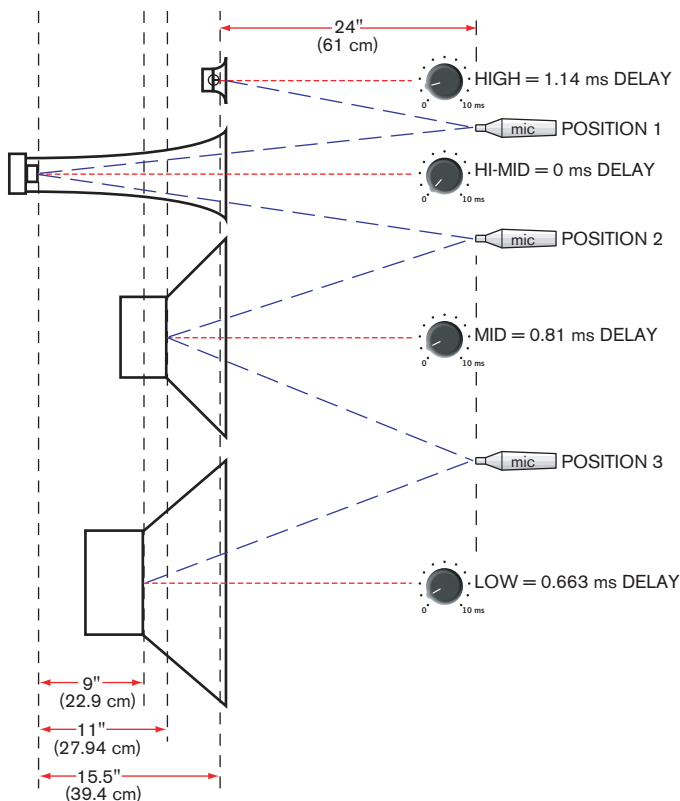

Figure 4. Delay settings calculated using furthest driver as zero.
2. Take the distance, *measured in inches*, for each driver and divide by 13.57. This gives the delay in milliseconds and pot rotation in “fractional-dots.” See Figure 4.
OK, so you want to do this the hard way. The following example outlines one method for Signal Delay alignment of the system in Figure 4. The procedure easily adapts to other configurations.
- e. Place the RTA microphone about 24 inches [60 cm] away from the speaker stack, as close to equidistant to each driver as possible (see Figure 4).
- 5. Set the Delays starting with the driver furthest back (the one that gets zero delay) and work outward (see Figure 4).
- a. Place the RTA mic in Position 1 as shown in Figure 4.
- i) Referring to Figure 4, note the Hi-Mid Output is the furthest back and requires no delay.
- a. Place the RTA mic in Position 2 as shown in Figure 4.
- i) Referring to Figure 4, note that the Hi-Mid Output is the furthest back and requires no delay.
- a. Place the RTA mic in Position 3 as shown in Figure 4.